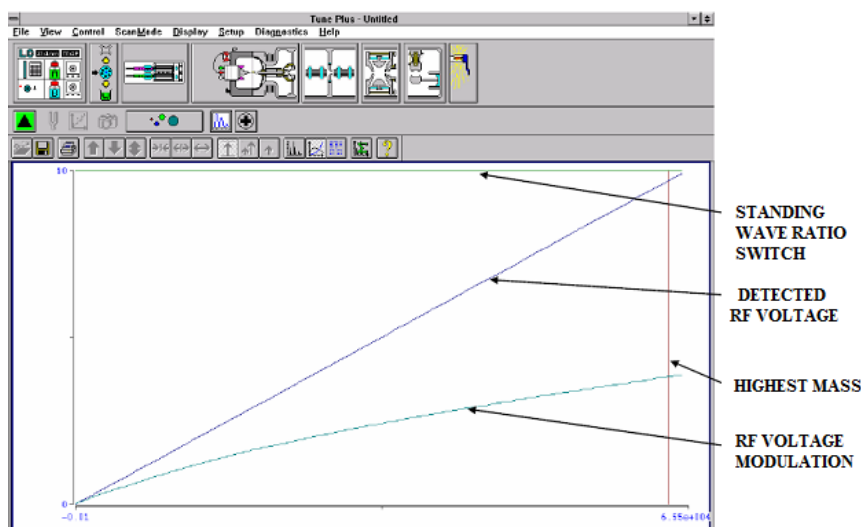

Figure 11. Graph view for ring electrode RF voltage modulation tuning.
8.2.2.7.3. Click on Start button. The Graph view should look as displayed in Figure 11.